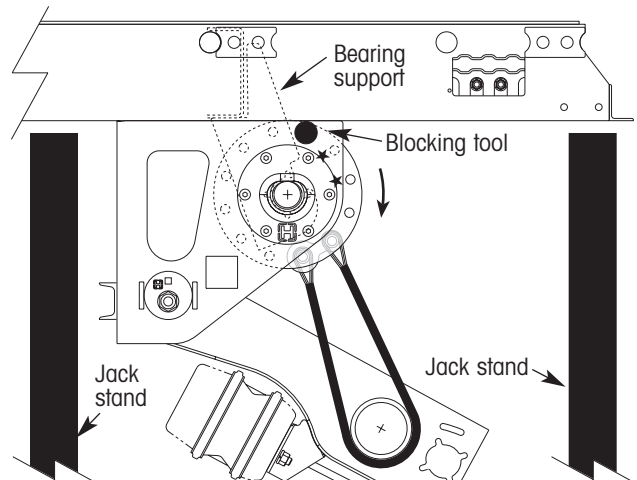

Figure 15. Lower axle, remove jack and turn trailer mode valve to "T" position
12. With personnel clear of the trailer suspension, turn the trailer mode valve (figure 3) to the "T" position (transfer mode). The trailer will rise slightly off of the jack stands, and the flange plate assembly will rotate clockwise, causing the blocking tool to rotate slightly away from the rear edge of the bearing support (figure 15).